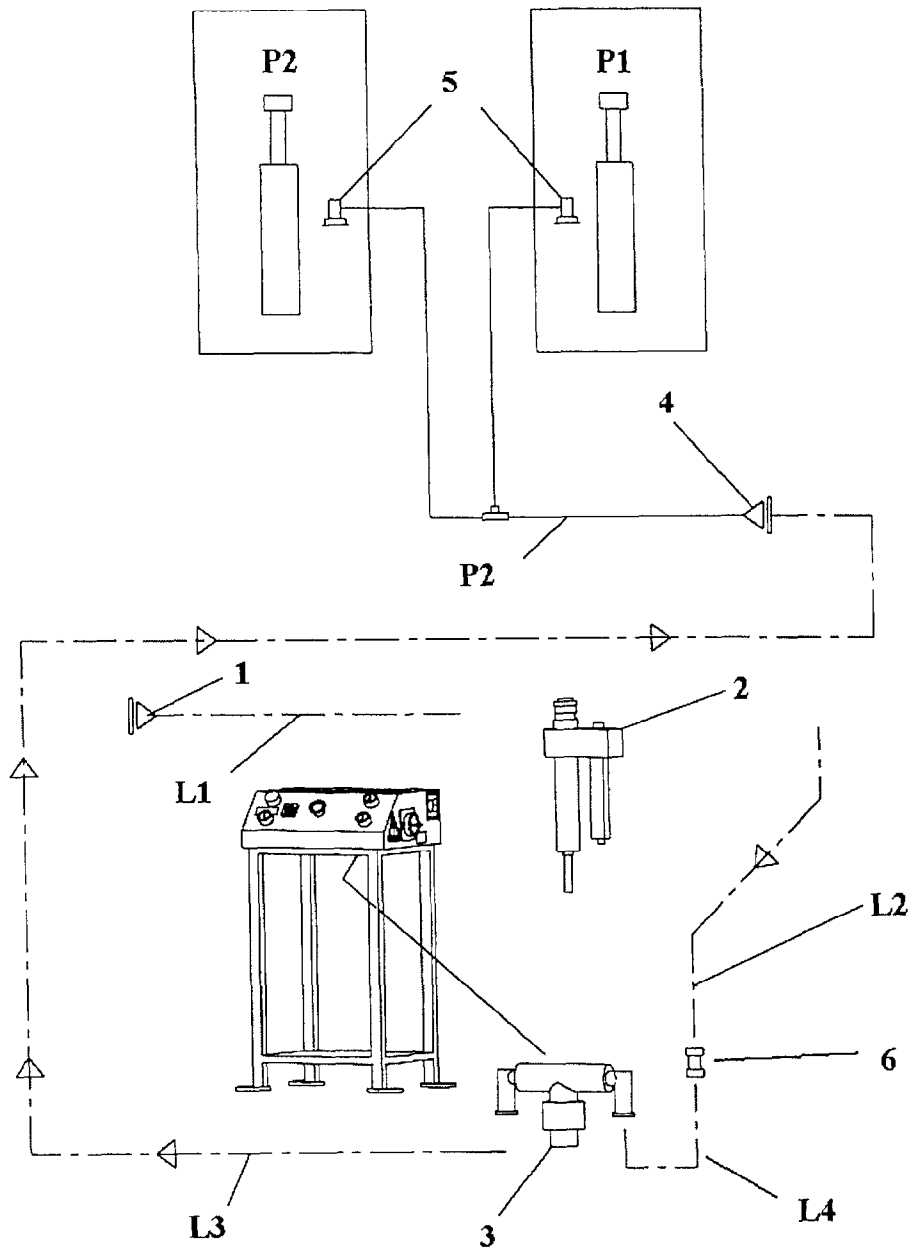

Figure 8 - Pneumatics Installation
2. Connect the pneumatic lines (pre-assembled on the runways) to the control desk according to the colour markings (Figure 8).
NOTE: Use the ¼" Polytube Adapter (Figure 8, Item 6) to join the supply line (L2) to L4 (12" (300mm) piece sliced from L3 - Accessory Box).